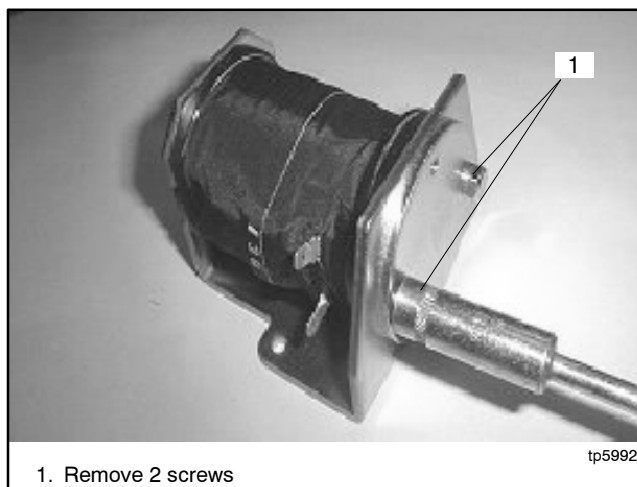

Figure 6-2 Disassembling the Coil Assembly
1. Remove two screws from the core plate. See Figure 6-2.
3. Install the core plate and tighten the two core plate screws. See Figure 6-2.